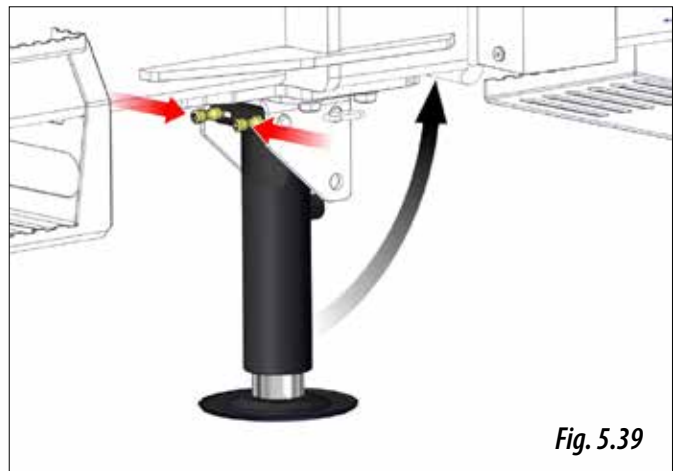

Fig. 5.39
- 2- Release the locks (Fig. 5.39) and raise the support foot until the locks are engaged again.